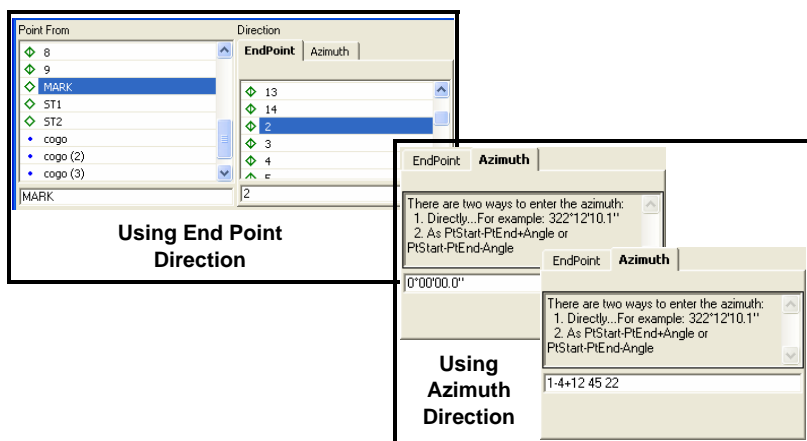

Figure 9-83. Enter the Point From and the Direction
- To use an End Point for the ray (Figure 9-83 on page 9-56), select the desired end point.
- To use an Azimuth for the ray (Figure 9-83 on page 9-56), enter one of the following azimuth values: